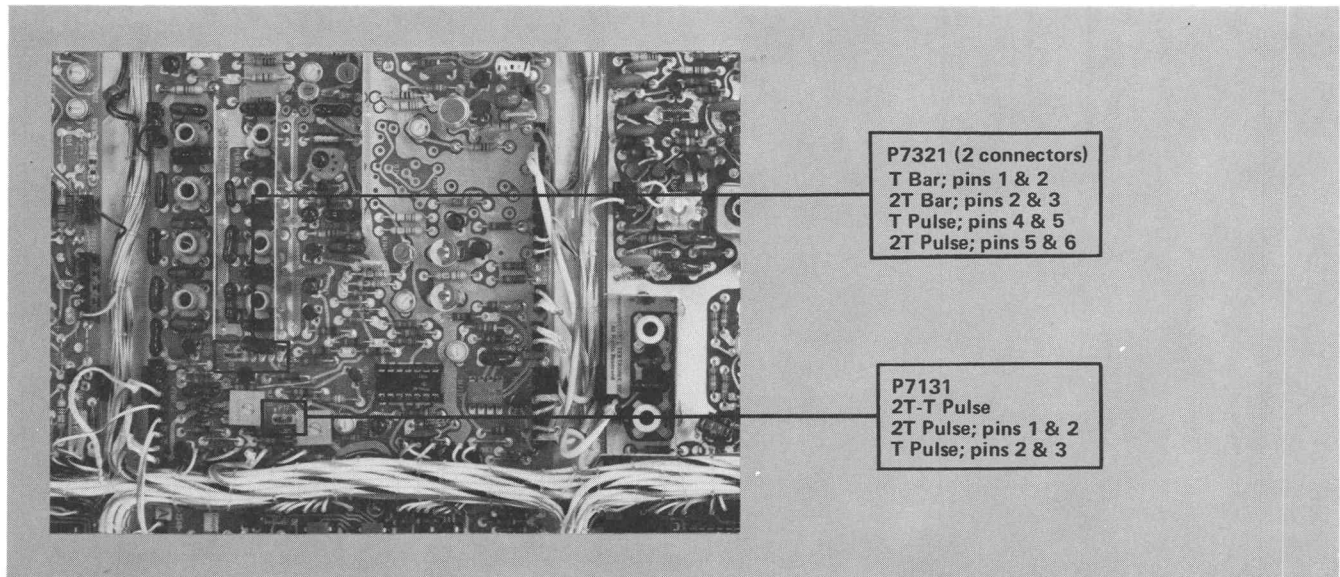

Fig. 2-14. Output Amplifier circuit board location of P7131 and P7321.
As factory connected, the 149 displays the 2T Pulse. To display the T Pulse in place of the 2T Pulse, (1) change the connector on pins one and two of P7131 (see Fig. 2-14) to pins two and three and (2) change the connector on pins five and six of P7321 to pins four and five.